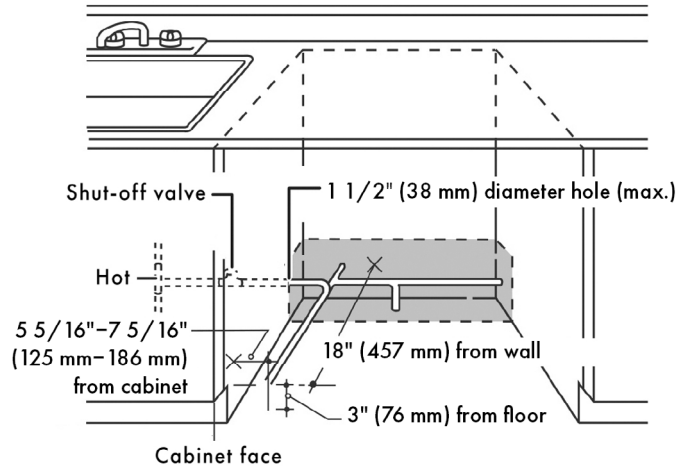

Figure 2
- Routing must remain within the designated shaded area shown in Figure 2 on the next page.
- Route supply line within approved routing area (see Figure 2 on the previous page).